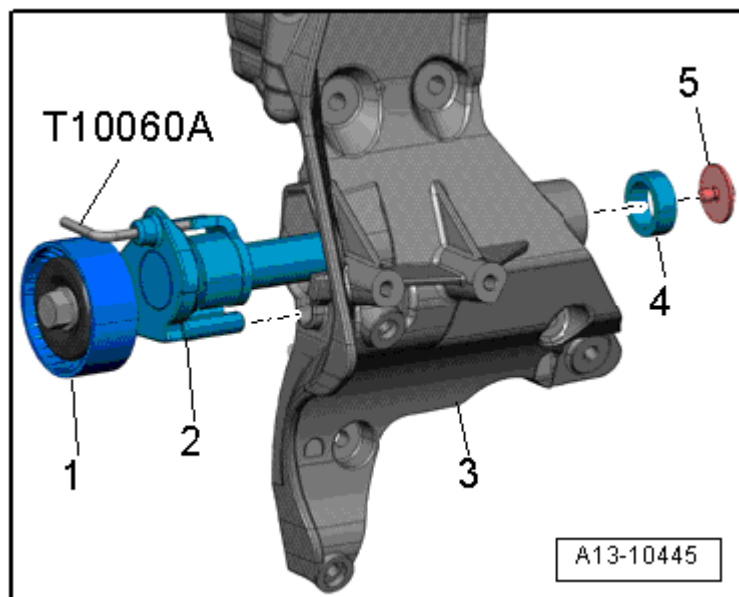

Fig. 7: Identifying Tensioning Device For Ribbed Belt
- Belt tensioner installed position. Refer to **Fig. 7**.